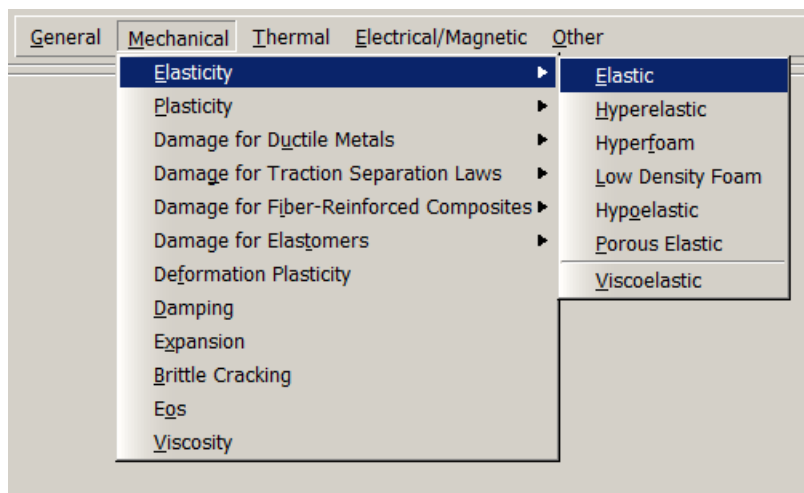

Figure L2–6. Material pull-down menu.
4. From the material editor's menu bar, select **Mechanical**→**Elasticity**→**Elastic**, as shown in Figure L2–6.